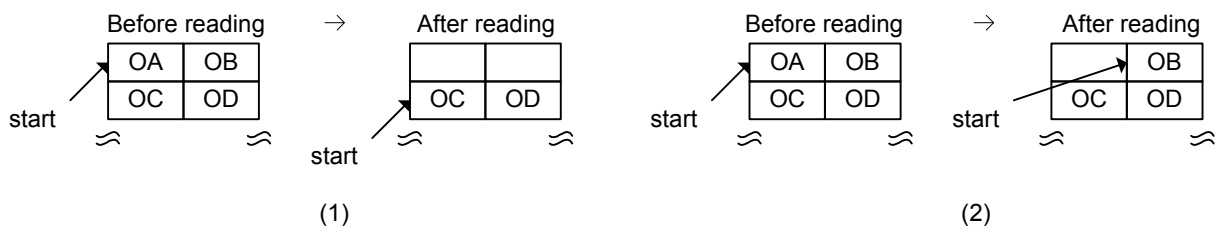

Fig. 1-79 FIFO reading processing (normal operation)
Fig. 1-79 (1) shows the situation when word-reading from a state without byte boundaries. Data A and B followed by data C and D are read out for each access. Fig. 1-79 (2) shows the situation when byte-reading. For each access, data is read out in the sequence A, B, C, and D. These are the normal read operations.